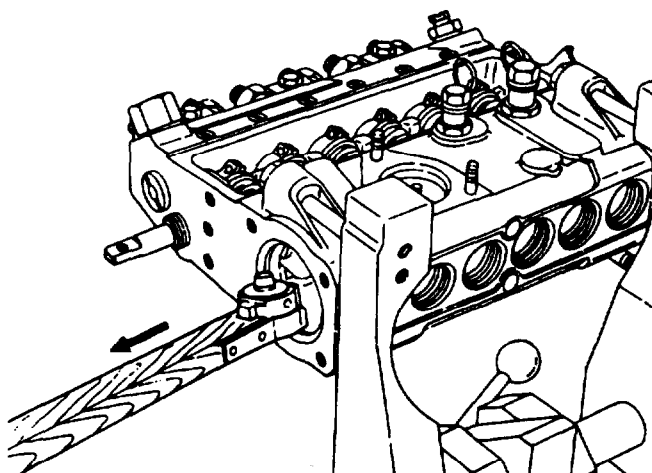

FIGURE 3-14. Removing Tappet (Typical)
- y. Insert clamp (157931-6120) through camshaft opening, clamp tappet (23) and remove it from housing, refer to FIGURE 3-14.